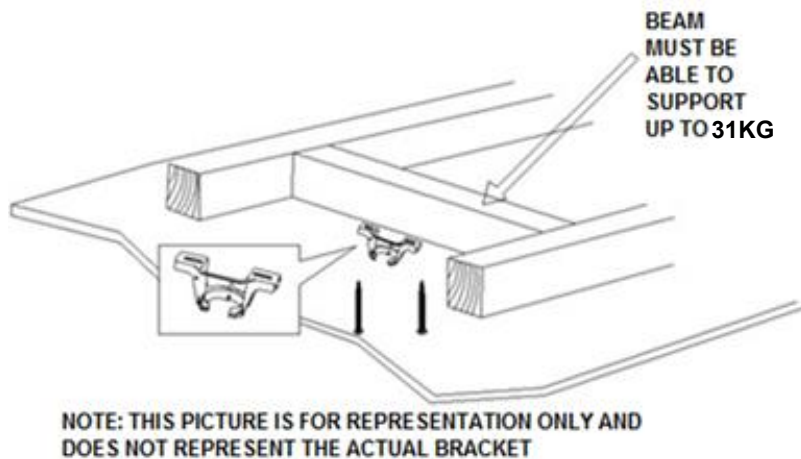

Fig. 2
- Install the hanging bracket to the ceiling joist or structure that is capable of carrying a load of at least 31kg, with two long screws provided. Ensure at least 30mm of the screw is threaded into the support. (Fig. 2)